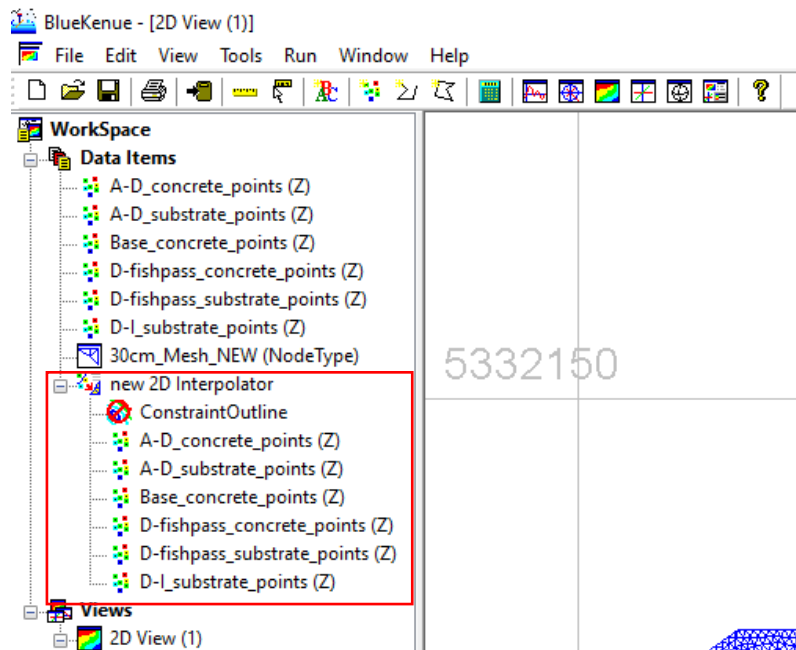

Figure 16: Add created files to the 2D interpolator.
3. Drag and drop **either the .xyz file or the .t3d file (closed lines)** on the new 2D Interpolator (Figure 16).